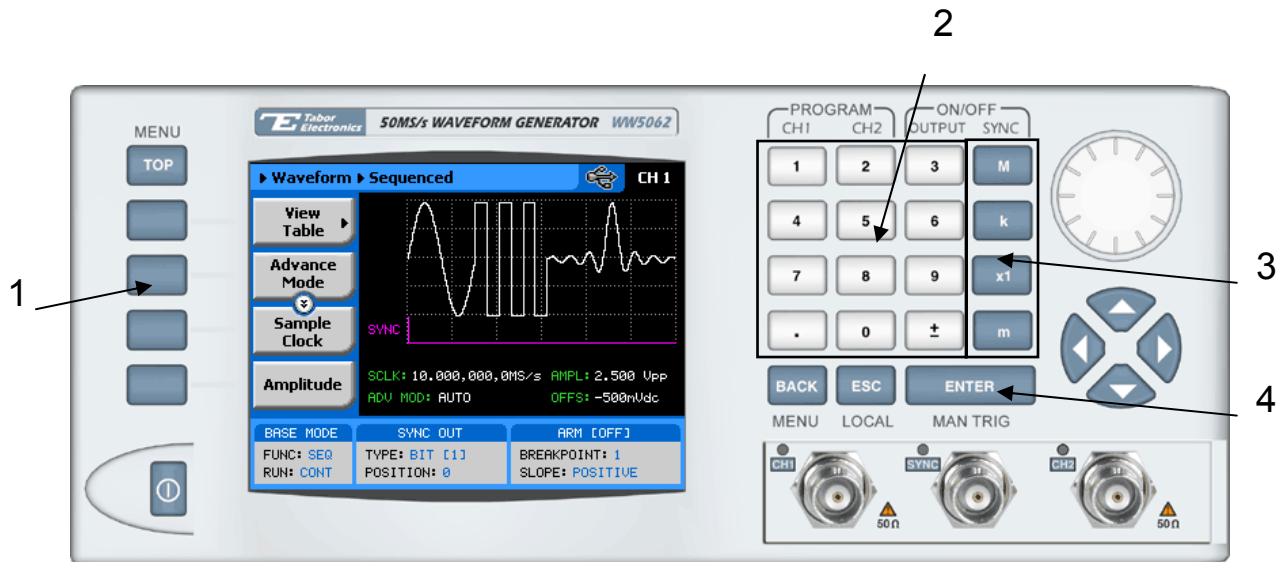
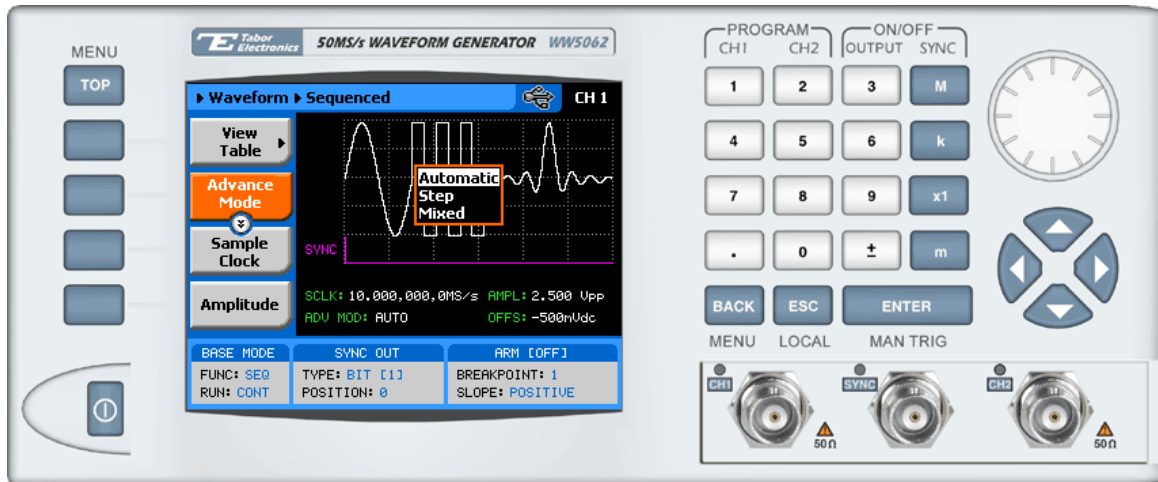

Figure 3-19, Sequence Parameters
Figure 3-21, Sequence Advance Options
Refer to Figure 3-19 and use the following description to learn how to output sequenced waveforms and how to program sequence parameters. To select Sequenced waveforms as the output waveform type press Waveforms, then Sequenced. The screen as shown in Figure 3-19 will display and the output will already generate arbitrary waveforms. Note the channel you are currently program and make sure the icon at the upper right corner agrees with your required programming sequence.
1. Refer to Figure 3-19 and select the Advance Mode with the appropriate soft key. The advance mode options, as shown in Figure 3-21 will display. Use the dial or arrow keys to scroll down to the required mode and press Enter to lock in the selected mode.
The operating mode of the instrument, as selected from the Run Modes menu, affects the way that the 5062 lets you access the sequence advance mode parameter. If you are in continuous mode, as shown in Figure 3-21, you can select one of: AUTO, STEP, or MIXED. If you already selected the triggered run mode, you'll be able to